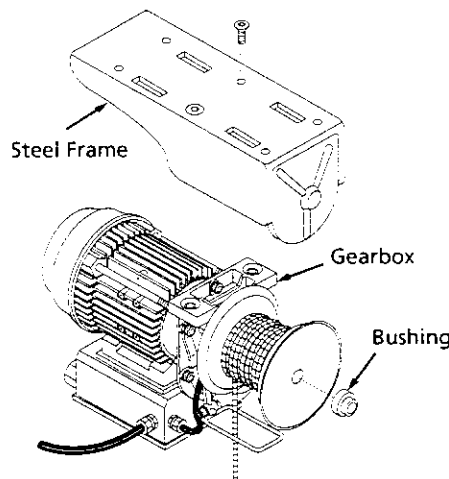

Figure 14 - Removing Frame
1. Unbolt the frame mounting screws on top of the hoist. Remove the steel frame gently from the gearbox. Be careful not to lose or damage the bushing that supports the cable spool (See Figure 14).